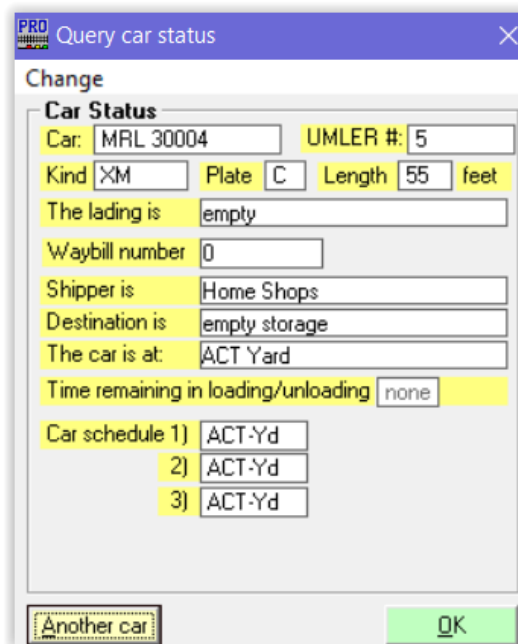
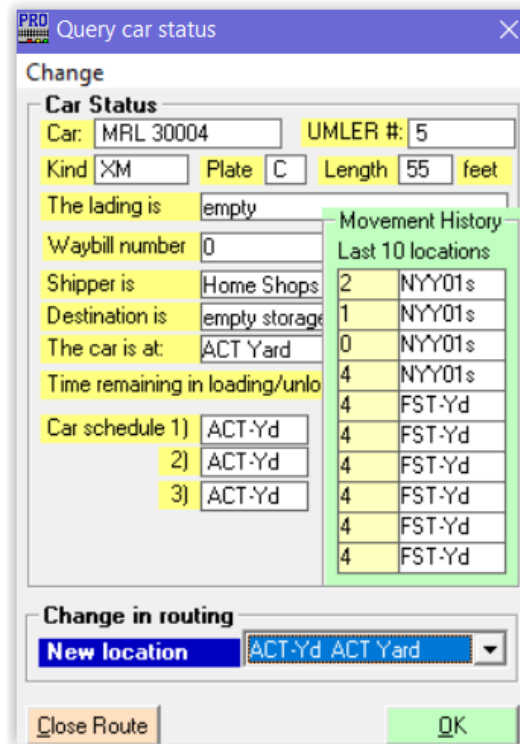

Figure 10-3d
Figure 10-3f
- iii. Click on the "Yes" radio button to select the car, changing the window as shown in Figure 10-3d. Should multiple cars match the entered data a dropdown to choose the correct car will be displayed. If none of the cars are correct, still click on "yes" and then just click the "OK" button and restart the process with the correct car number.
- viii. For our example to change the current location, click on the dropdown menu option "Change Location" and the window will change as shown in Figure 10-3f. Use the "New location" dropdown to select the correct location for the car and you will be returned to the window as in Figure 10-3d but with the new location listed. We will leave "ACT-Yd" set as it is correct.